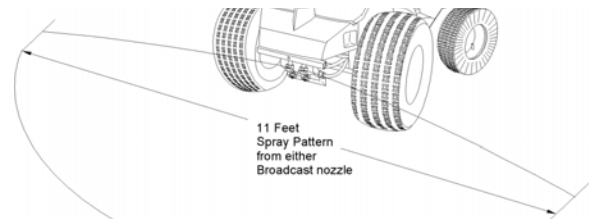

FIGURE 17, Broadcast spray pattern
The sprayer has a broadcast pattern width of 11 feet (3.4 meters) using a single front mounted nozzle, as shown in FIGURE 17. The spray distribution pattern allows the use of the seven-foot (2.1 meter) overlap spreader travel pattern to achieve an even and complete coverage of the sprayed product on the entire turf area by overlapping the edge of the last spray pattern approximately 2 feet (.61 meter). Using a trim nozzle provides an even finished distribution over a spray pattern of 6 feet (1.82 meters) on the surface
- Spray for 15 seconds until the spray pattern is visible on the surface. The spray pattern should resemble the 11-foot spray pattern in FIGURE 17. Adjust as follows: